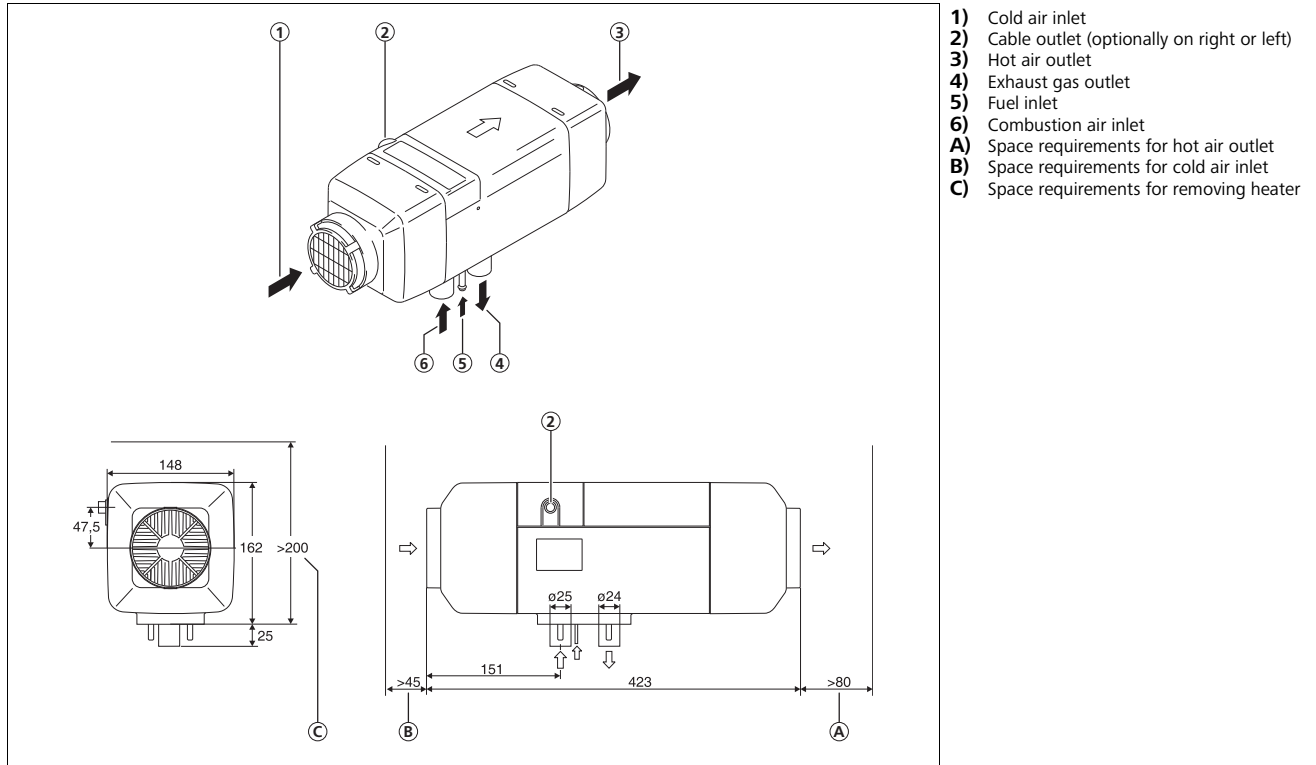
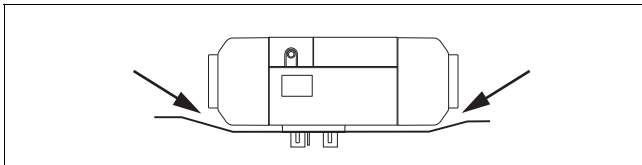

Fig. 3 Dimensions and space requirements [mm] Air Top Evo 40 / Air Top Evo 55
Fig. 7 Ensure ease of movement of all moving parts!
- ▶ Make sure that the casing of the heater is clear, i.e. does not make contact with any other parts, in installed position (see Fig. 7).
see Fig. 3 and Fig. 7